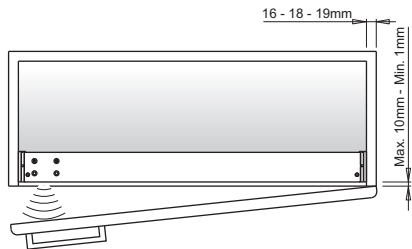

Fig 6
- Position the supports (4) as per the measurements shown in figure 6.
- Graft the lamp to the stirrups (4) up to when it will be stopped by the hook on them, making the cable pass as shown in the detail "A".